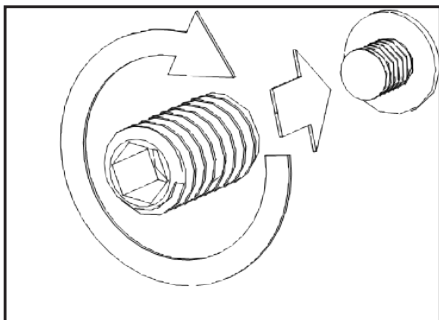

Fig. 5
- 3) Twist on supplied threaded caps (x2) on to existing screws on the fridge door. To ensure no gap between the handle and the door, make sure that they meet the washer. (Fig. 5 )